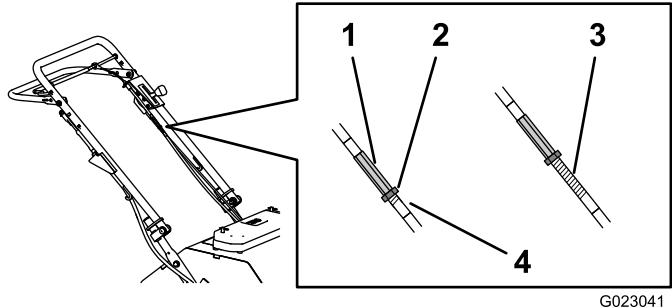

Figure 35
- A. Loosen the jam nut (Figure 35) on the traction cable.
- B. Adjust the cable fitting (Figure 35) 3 mm (1/8 inch) at a time until the traction-cable spring (Figure 36) is stretched about 10 mm (3/8 inch) from the original (unstretched) position.
To increase the belt tension, turn the cable fitting counterclockwise, so that **more** threads are exposed. To decrease the belt tension, turn the cable fitting clockwise, so that **fewer** threads are exposed (Figure 35).